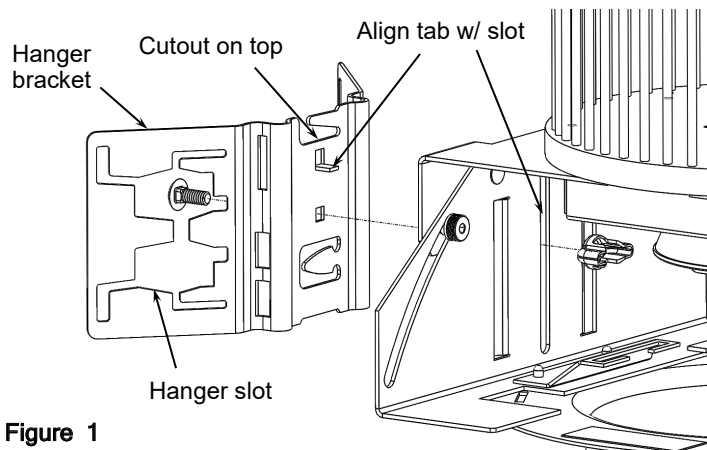

Figure 1
1. Unpack hanger brackets and mounting hardware. Insert #10 square shoulder carriage bolt through square cutout in mounting bracket and align mounting bracket tab and carriage bolt with slot in housing. Secure into position with #10 wing nut from inside of housing. (See **Figure 1**).